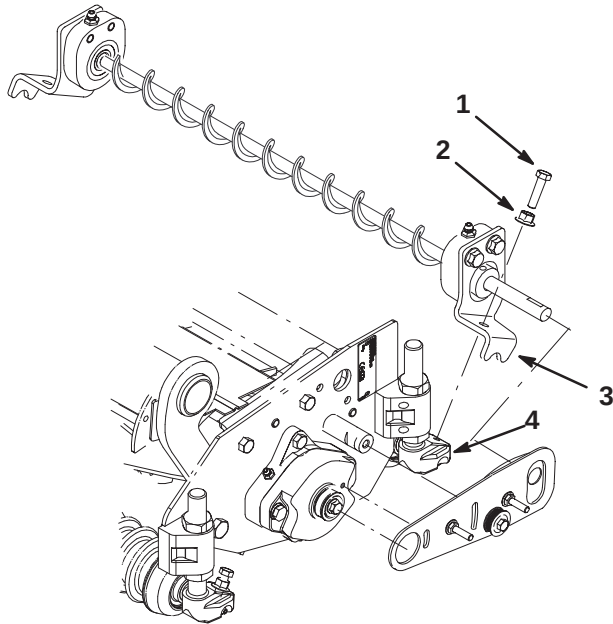

Figure 10
- Thread a 5/16" flange nut onto (2) 5/16-18 x 1" lg. bolts as shown in figure 10.
17. Position roller brush assembly onto support rods, aligning mounting holes and inserting key way end of roller brush shaft through opening in guard plate and pivot plate (Fig. 10).
18. First, secure roller by threading the (2) 5/16–18 x 1" lg. bolts thru roller brush brackets and into support rods. Do not tighten flange nuts at this time. Insure roller is centered between support rods (Fig. 10).
19. Second, tighten flange nuts locking roller brush brackets to support rods. Insure brackets are parallel with side plates (Fig. 10).